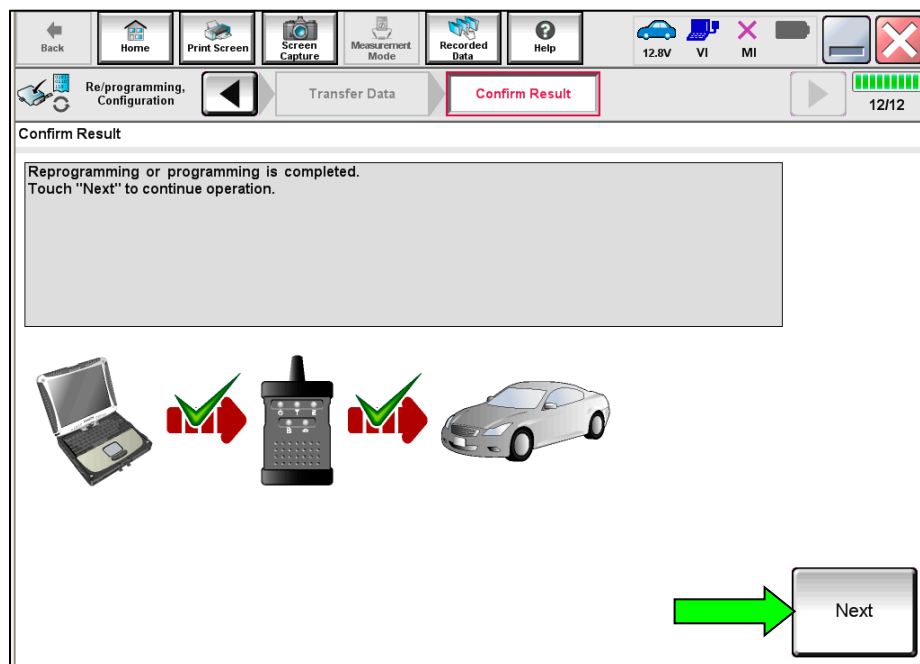

Figure 28
40. Once the screen in Figure 28 displays, the reprogramming is complete. Select **Next**.
HINT: When the screen in Figure 28 displays, HV Battery reprogramming is complete. If the screen in Figure 28 does not display (indicating that reprogramming did not complete), refer to the information on page 27.